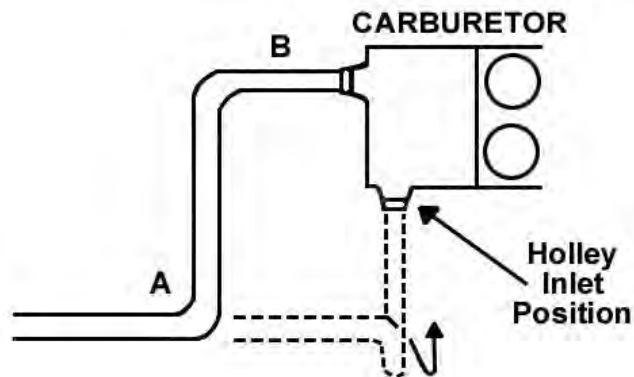

Figure 1
2. For Ford carburetor conversions, straighten the bend at "A" (see Fig. 1), then twist 180°, so that the end of line "B" can enter the Holley carburetor from the left side.